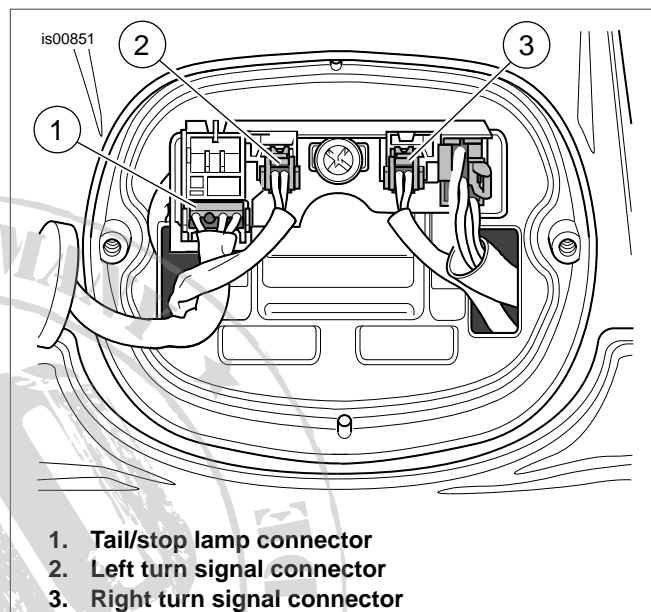

Figure 1. Rear Lamp Connectors
4. See Figure 1. Remove the two screws securing the tail/stop lamp lens assembly, and remove the lens and bulb assembly. Depress the latch on the four-way tail/stop lamp connector (1), and disconnect the connector from the circuit board.
5. Depress the latches on the left-side (2) and right-side (3) two-way turn signal connectors, and disconnect the connectors from the circuit board.
35. See Figure 1. Insert the left-side (1) and right-side (2) two-way turn signal connectors into the correct cavities in the tail lamp circuit board.